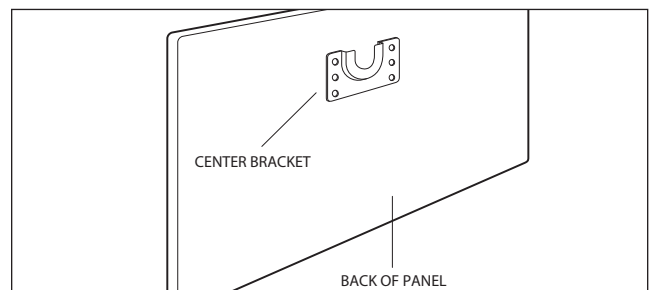

Figure 4.
- 8 Rotate the drawer panel up to align and engage the panel mounting center bracket on the panel with the special center support washer on the drawer front. (See Figure 4)